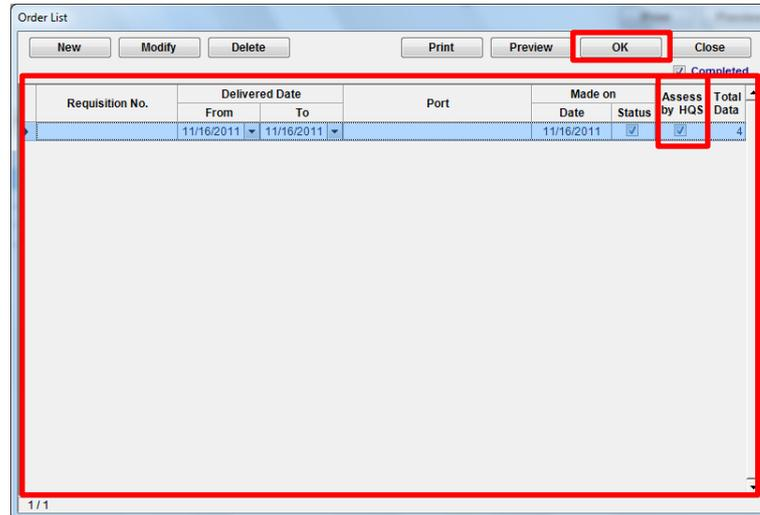

Fig 7.5 Parts Requisition Dialog
8. "Parts Requisition Dialog"(Fig.7-5) is displayed.